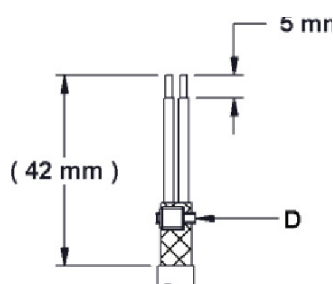

Figure 2
5. Trim the braided shield flush to the edge of the tie wrap (D), exposing the individual wires as shown in Figure 2.
6. Strip individual wire leads to expose 5mm of bare conductor as shown in Figure 2.